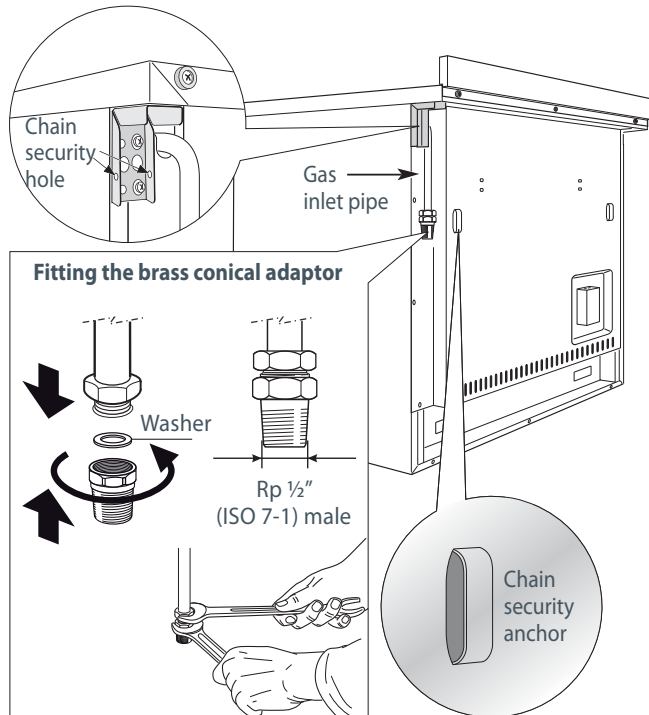

Fig. 14 Gas supply inlet
- IMPORTANT: Use two spanners to tighten or loosen the connecting pipe (Fig.14).